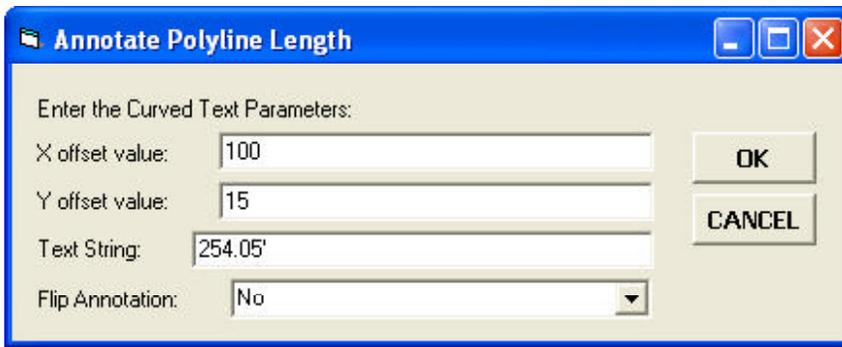

Figure 7
- **5** Once the feature or string to be processed has been identified, the multi-input dialog box of Figure 7 is displayed, in addition to the annotation feature.